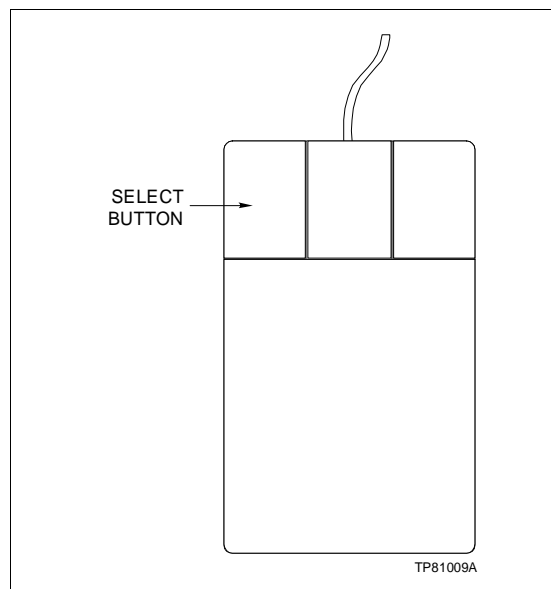

Figure 2-1. PC Mouse
**Mouse** The standard pointing device on the PC is a three button mouse as shown in Figure 2-1.